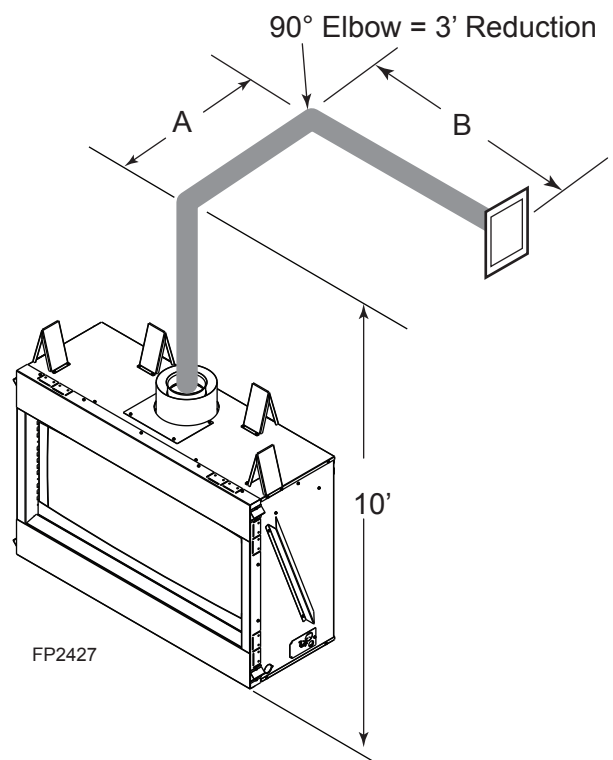

Figure 16 -
- If a 90° elbow is used in the horizontal vent run (level height maintained) the horizontal vent length is reduced by 36". *Figures 16 and 17*. This does not apply if the 90° elbows are used to increase or redirect a vertical rise.
In *Figure 16* dimension A plus B must not be greater than 14½' (4.4 m).